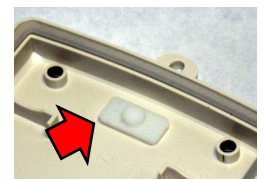

Fig. 4: Rubber Gasket
8. On the inside rear housing, insert the **Rubber Gasket** that covers the slots for the **Wall Outlet PCB** prongs (see Fig. 4).
10. Replace the rear housing; secure with the four (4) screws.